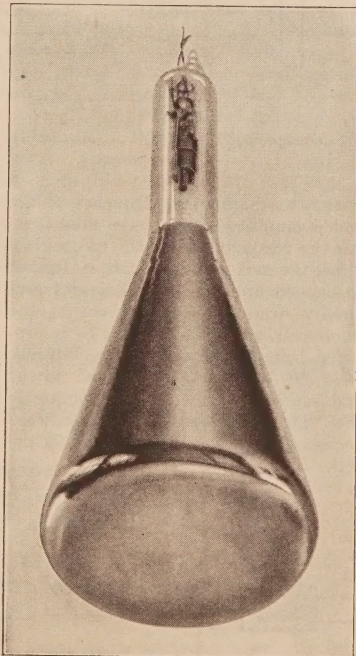
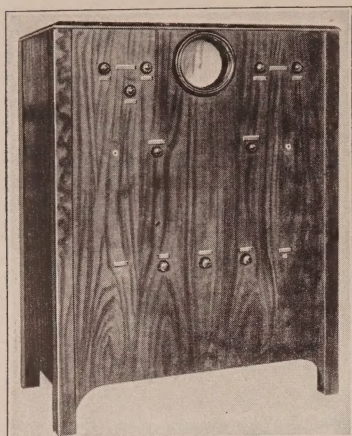
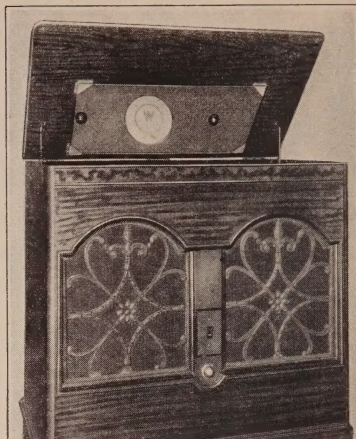

Fig. 6. The type of tube used by Mr. Zworykin in his demonstration is illustrated in this photograph
Fig. 7. This photograph shows one type of the receiver used in the test
Fig. 8. Another type of receiver more suitable for the home is shown in this photograph
is admirably adapted to hum elimination by hum bucking. The arrangement of Fig. 6 shows one practice, and a very simple one, we employ most effectively for hum bucking in the presence of an extremely poor filter. It comprises merely a connection of the filament to a point of preferably variable selection on the resistance R_1 through a condenser C_{hb} of 1/10 microfarad for example. If it were not for the variability in the commercial screen grid tubes the connection to R_1 might well be once determined and left fixed.
For example, Fig. 7 is a simple 2-tube system comprising a 224 screen grid tube as input and a 250 power amplifier as output, supplied from a single half wave 281 rectifier. The general constants are shown or later stated.
The two graphs of Fig. 8 show with the aid of logarithmic abscissae and linear ordinates the measured and plotted voltage gain throughout the entire audio range of the 2-tube system of Fig. 7, the system being the same for the taking of both graphs except for change in the value of coupling resistor R_c and suitable change of screen grid potential, 1/10 megohm being used in one case and 1/4 megohm in the other, as indicated on the graphs. The skeleton diagram accompanying the graphs shows and states the details of the output of the system employed in measuring for these graphs. In Fig. 7
In order to operate on this occasion with the high potential of 180 volts on the plate of the 224 tube, the 400 volts across the 250 tube was divided into the 110 volt and 290 volt portions by high resistances R_6 and R_5 respectively as shown, the high resistances avoiding noticeably increasing the current drain on the filter. R_c was connected at this division, thereby adding 110 volts to the 250 volts in R_2 , a total of 360 volts to divide into 180 volts across coupling resistance R_c and the plate of the 224 tube, this equal division being what we term "symmetrical operation." Of course the 180 volts across R_c is too much for grid bias of the 250 tube, but the opposed 110 volts in R_6 nicely reduces the over-all grid bias to a satisfactory 70 volts. It might be added that generally we operate the systems with a potential distribution on plate and across R_c equal to the normal bias potential of the succeeding power amplifier tube, as in Fig. 6, thereby not requiring the R_5 and R_6 resistance of Fig. 7. In this case only 140 volts is required across the resistance arm, thus making the filter output 540 volts for 250 tube operation.
The mildness of the hum difficulties is apparent from examination of the rectifier and filter system constants of Fig. 7. Here we use a single wave (281) rectifier followed by a single stage filter of 2 and 1 microfarads respectively separated by a 20 henry choke. The 2 microfarad condenser is really not used because needed for filtering, but to develop the required high potential from the 281 tube. Another high voltage 1 microfarad condenser is used in the signal circuit of the output tube. Even with this cheap and insignificant filter and half wave rectifier our hum is well within commercial estimate of what is tolerated. When it is appreciated from Fig. 8 that the gain at 60 and 120 cycles is practically the same as elsewhere, the result is really astounding.
Reference to Fig. 7 also makes clear that there is plenty of high potential and current for energizing the tubes of a preceding frequency amplifier without increased drain on the filter, and also, for energizing the field coils of dynamic speakers, the current in the arm R, being adequate for this. The system also lends itself to push-pull operation as two complete systems in push-pull relation, or the equivalent of simple push-pull output tubes, but in view of the extremely fine characteristics we really see no need for push-pull for the reasons it is now so generally employed. Photo-electric cell operation becomes a simple and satisfactory matter through the medium of the very high gain amplifier.
The brightness of the line can be controlled to any desired extent by a negative bias on the controlling element. The bias controls the mean intensity of the picture whose lights and shadows are super-imposed upon this mean intensity. It is evident that if we apply to this controlling electrode the amplified impulses from the transmitter and at the same time deflect the beam in synchronism with the motion of the light beam across the picture on the film, the picture will be reproduced on the fluorescent screen. Figs. 7 and 8 show a general view of two types of receivers.